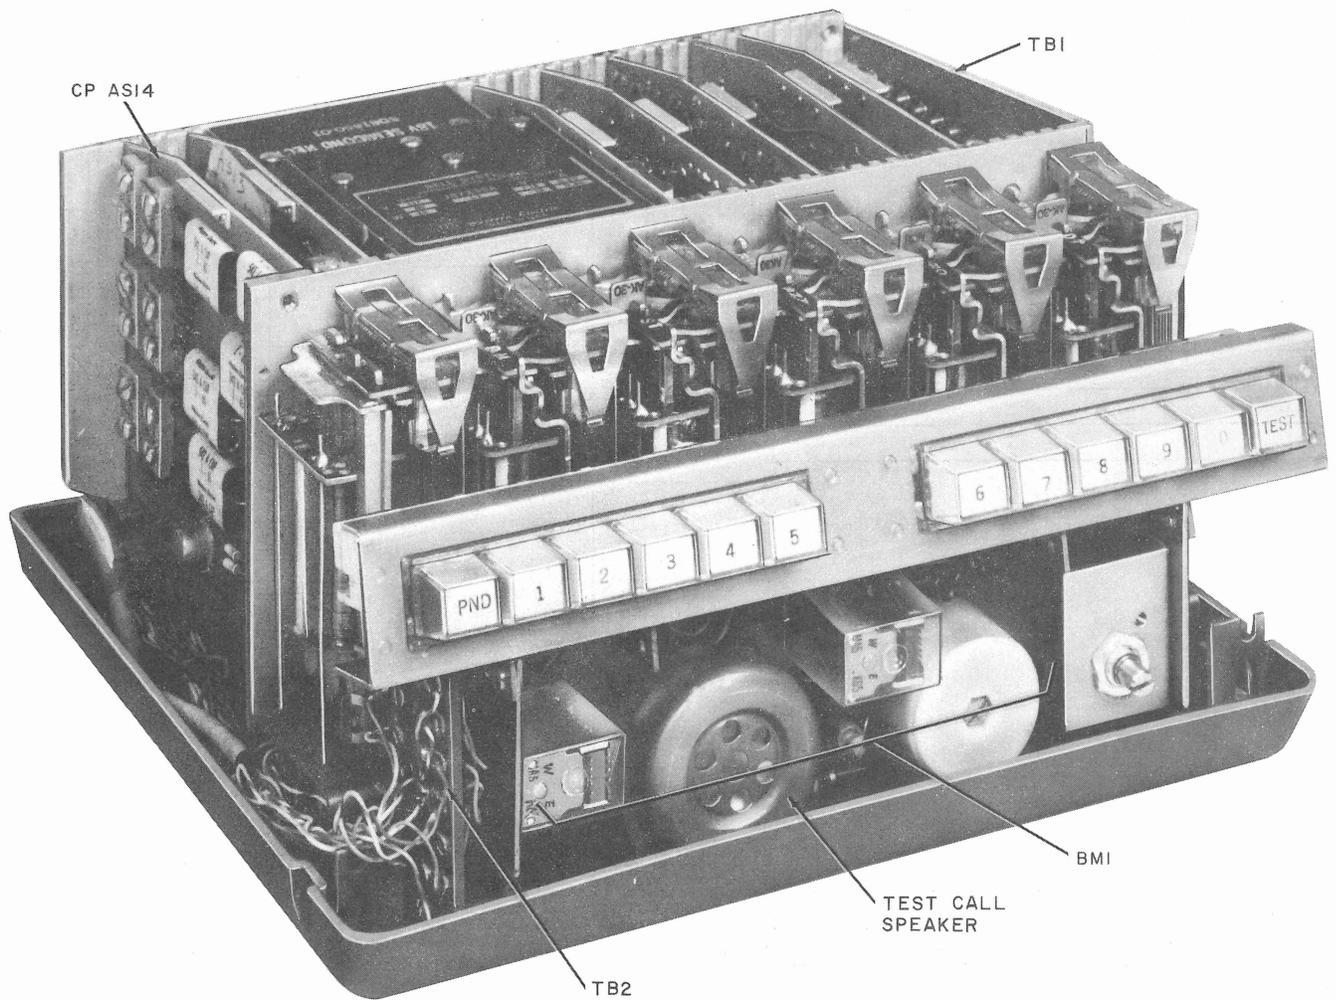

Fig. 4—Data Auxiliary Set 801A-Type, Front Inside View
4.06 When the data auxiliary set is placed in the test mode, all call progress tones (dial tone, ringing, etc) can be monitored on the test call speaker. This speaker is located inside the cover of the ACU. Refer to Fig. 4 for a view of the data auxiliary set with the cover removed.